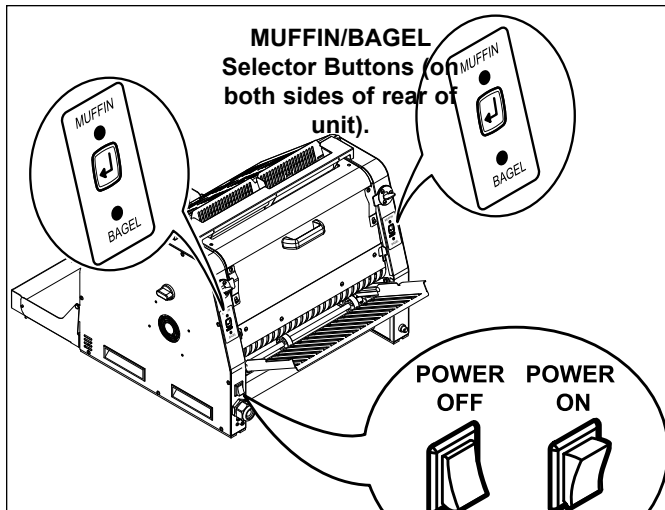

Figure 6. Purging Products: Rear of Unit
With the unit in a READY or WAIT mode, you can also press and hold BOTH of the **MUFFIN/BAGEL** selector buttons together to purge product from the unit. These buttons are located at the rear of the unit. See Figure 6.
3. Press and hold both **MUFFIN/BAGEL** selector buttons on the back of the unit (Figure 6) to expose the uncleaned portion of the belt. Repeat Step 2 on the uncleaned portion of the belt.